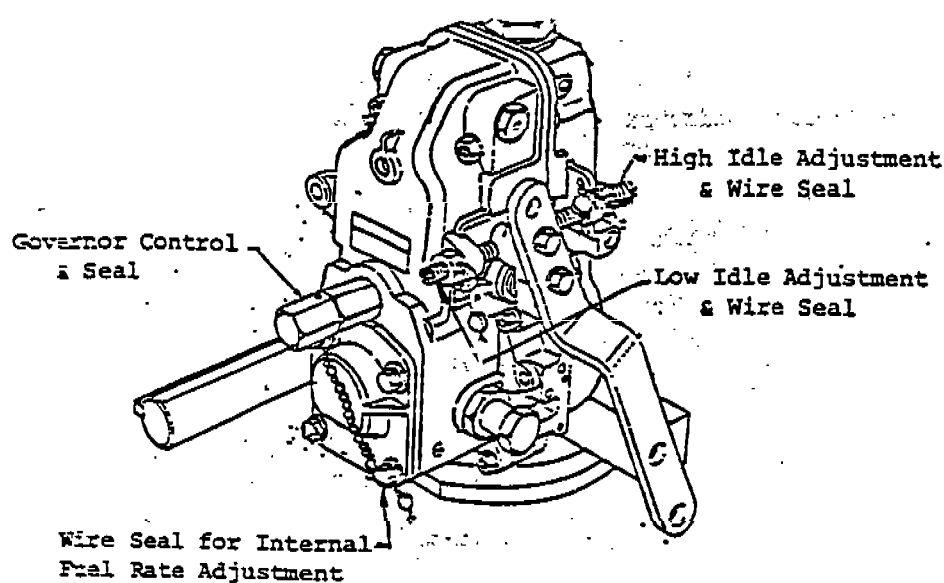

FIGURE 2 - SEALED ENGINE ADJUSTMENTS
(WEEKLY) 6. () The fuel injection rate adjustment mechanism (3)* and the engine governor setting are locked and sealed (see Figure 2).